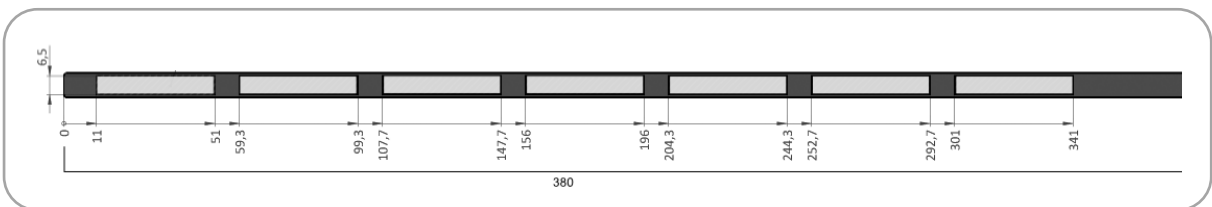

Figure 14: Labelling strip
- The dimensions (given in mm) are shown in Fig. 14. There are seven printable areas each measuring 6.5 mm in height and 40 mm in length. The gap on the left side is 11 mm and the gaps between the areas are 8.3 mm.